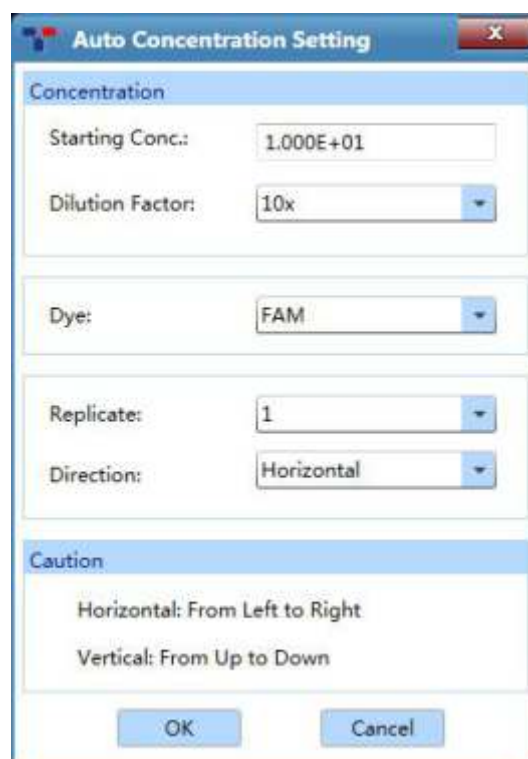

Figure D-6.4 Sample Setting interface - Auto Concentration Setting Window
e. For a series of standard samples diluted according to a certain dilution factor, users can select corresponding standard sample wells in the sample setting area and let the application software to automatically calculate and set the relevant standard concentration for this series of standard samples. Please click < **Auto Setting** > and the auto concentration setting window will pop up automatically, as shown in figure D-6.4.